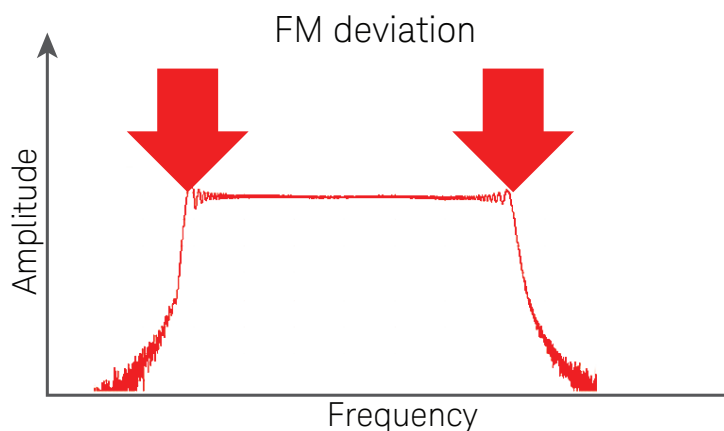

Figure 5. In order to correctly modulate this FM chirped signal, a source's modulation bandwidth must be greater than or equal to its frequency deviation.
- **Modulation Bandwidth.** Modulation bandwidth is the modulation frequency range of the source. It affects rise times of pulses, as well as modulation parameters, such as an FM chirp's width and rate (Figure 5). VSGs and AWGs can output multiple emitters simultaneously within their modulation bandwidths, and their agile ranges are typically limited to whatever their bandwidths are for their given set frequency. A source's bandwidth depends on its DAC sample rate, as well as its analog characteristics (e.g., frequency band mapping).